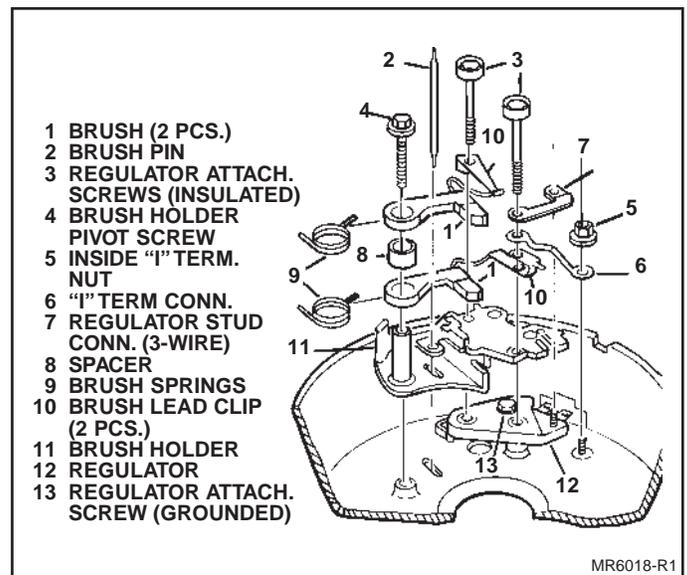

Figure 19. Brush Holder Disassembly
11. Brush holder assembly must be removed to service brushes or regulator (Fig 19). Hold brushes in retracted position and insert brush pin to keep brushes in retracted position. Remove insulated regulator attaching screw. Remove regulator nut and stud connector (if used). Loosen or remove inside "I" terminal nut to move "I" terminal connector (if used) as necessary for clearance. Finally, remove brush holder pivot screw. Lift brush holder assembly from housing without bending regulator connector from diode trio or "I" terminal connector.
12. Check brushes and leads for excessive wear, breakage, etc. If necessary to replace, note routing of lead wires and position of lead clips for later assembly; brushes are identical but leads and clips are positioned differently. Carefully remove brush pin to release brushes (Fig. 19). Remove brushes and spacer one at a time, placing fingers around springs to prevent loss. It may be necessary to spread the brush lead clips slightly to disengage retaining tabs.